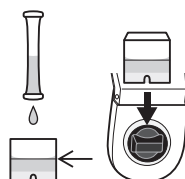

Fig.4
6. Return the sample into the cell gently, and insert the cell into the cell box. (Fig.4)